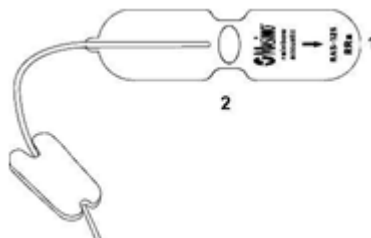
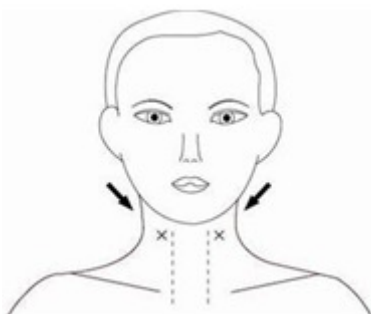

Figure 11: Acoustic Sensor
Figure 12: Sensor pad locations
- Acoustic Sensor placement - The Acoustic sensor has a small black arrow on the front (item 1 in Figure 11 below), when placing the sensor the black arrow should point forward to the anterior of subject's body.
- The sensor pad (item 2 in the Figure 11 above) should be placed to either side of the larynx, in the area just above the thyroid cartilage and below the jaw line (see Figure 12 below). Ensure that there are no skin folds under the sensor pad.